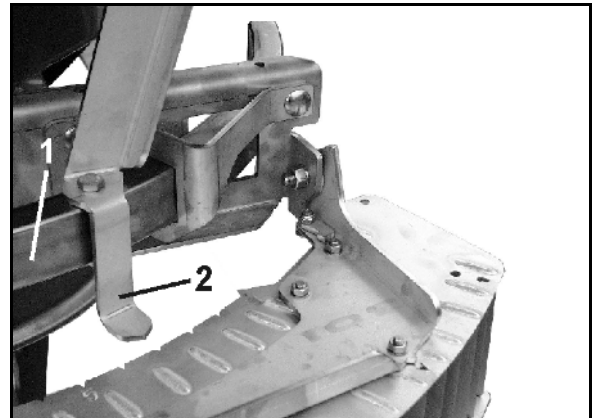

Fig. 75
1. For this purpose, release the clamping lever (Fig. 75/1).